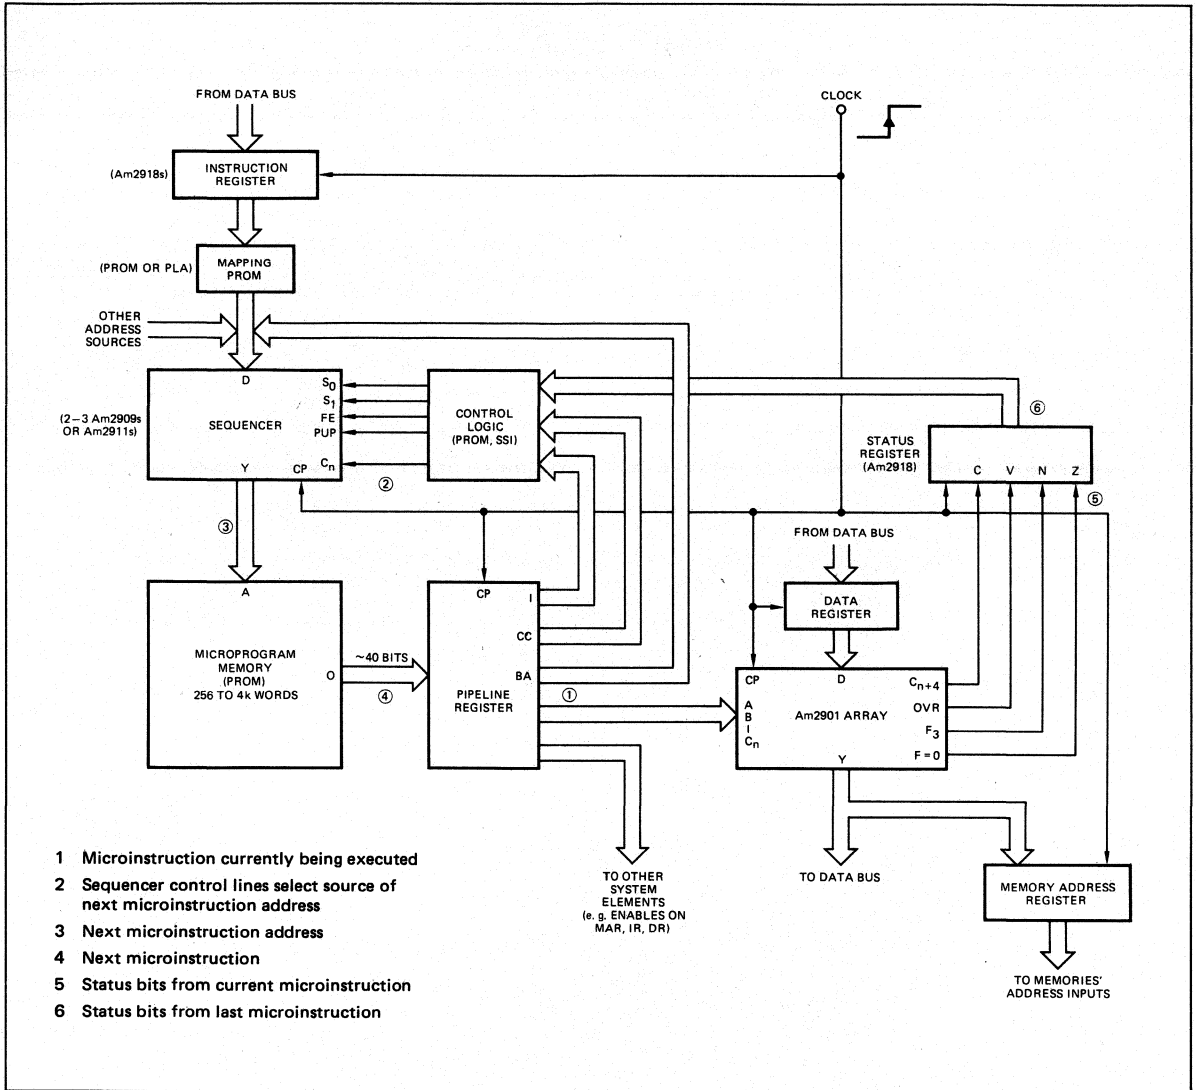

Figure 3.
Figure 3 illustrates a typical system architecture. There are two "sides" to the system. At the left is the control circuitry and on the right is the data manipulation circuitry. The block labeled "2901 array" consists of the ALU, scratchpad registers, data steering logic (all internal to the Am2901's), plus left/
A "machine instruction" (such as a minicomputer instruction or a 9080A instruction) is performed by executing several microinstructions in sequence. Each microinstruction therefore contains not only bits to control the data hardware, but also bits to define the location in PROM of the next microinstruction to be executed. The fields are labeled in Figure 3 as I, CC, and BA. The I field controls the sequencer. It indicates where the next address is located — the μ PC, the stack, or the direct inputs — and whether the stack is to be pushed or popped.
A pipeline register is a register placed on the output of the microprogram memory to essentially split the system in two. The pipeline register contains the microinstruction currently being executed ①. (Refer to the circled numbers in Figure 3.) The data manipulation control bits go out to the system elements and a portion of the microinstruction is returned to the sequencer ② to determine the address of the next microinstruction to be executed. That address ③ is sent to the ROM and the next microinstruction ④ sits at the input of the pipeline register. So while the 2901's are executing one instruction, the next instruction is being fetched from ROM. Note that there is no sequential logic in the sequencer between the select lines and the output. This is important because the loop ① to ② to ③ to ④ must occur during a single clock cycle. During the same time, the loop from ① to ⑤ must occur in the 2901's. These two paths are roughly the same (around 200ns worst case for a 16-bit system). The presence of the pipeline register allows the microinstruction fetch to occur in parallel with the data operation rather than serially, allowing the clock frequency to be doubled.
The system shown in Figure 3 works as follows. A sequence of microinstructions in the PROM is executed to fetch an instruction from main memory. This requires that the program counter, often in a 2901 working register, be sent to the memory address register and incremented. The data returned from memory is loaded into the instruction register. The contents of the instruction register is passed through a PROM or PLA to generate the address of the first microinstruction which must be executed to perform the required function. A branch to this address occurs through the sequencer. Several microinstructions may be executed to fetch data from memory, perform ALU operations, test for overflow, and so forth. Then a branch will be made back to the instruction fetch cycle. At this point, there may be branches to other sections of micro-